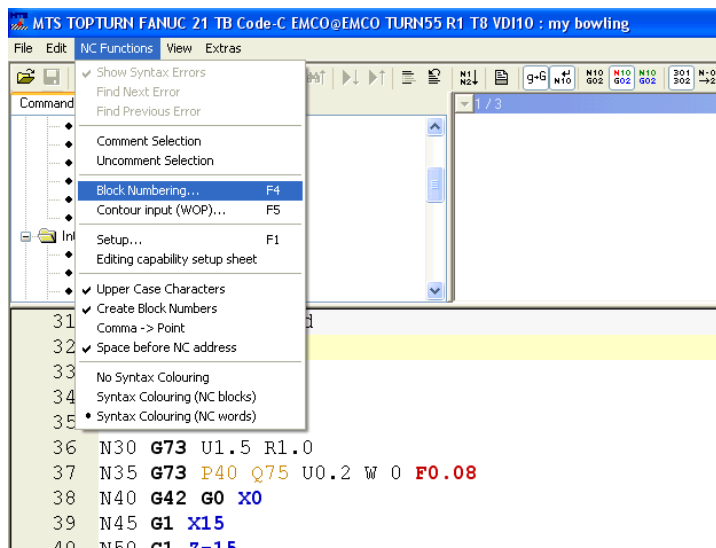

Fig. 2.25: NC functions
- o From the menu bar click on “**NC Functions**”. Fig. 2.25